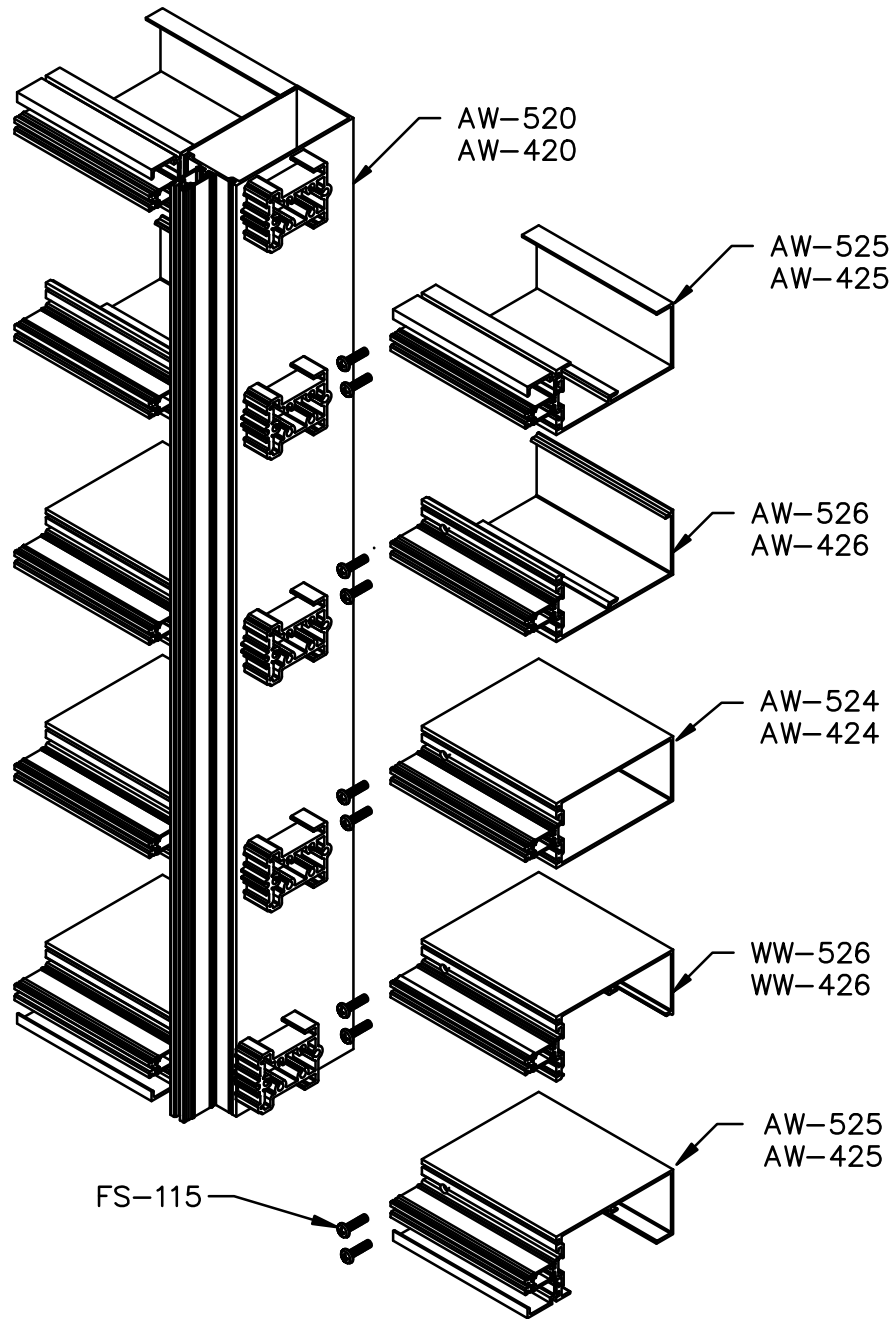

FIGURE 14
- 2.2 Seal around shear blocks prior to installing each horizontal mullion. SEE FIGURE 12. Install horizontal mullions as shown in FIGURE 13, page 17 and FIGURE 14, page 18. Prior to attaching screws, make sure sealant has been forced out of the holes in horizontal. If not, apply a liberal amount of sealant into each hole. Secure horizontals to shear block with two (2) FS-115 #10 x 1" Phillips Pan Head screw at each end of horizontal. Check head of screw to insure proper seal.